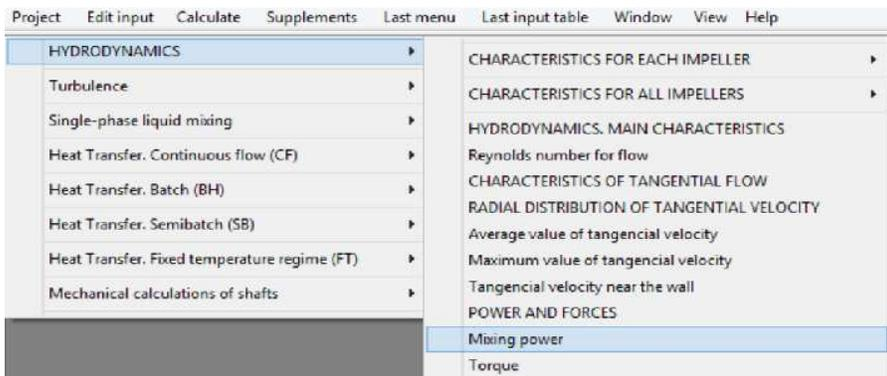

Figure 10. Menu option for calculation of mixing power.
**2.1. Power consumption.** Calculation of power consumption of the mixing device is performed using the option **Calculate** in the main menu. We select (Fig. 10) **Calculate > Hydrodynamics > Mixing power.**